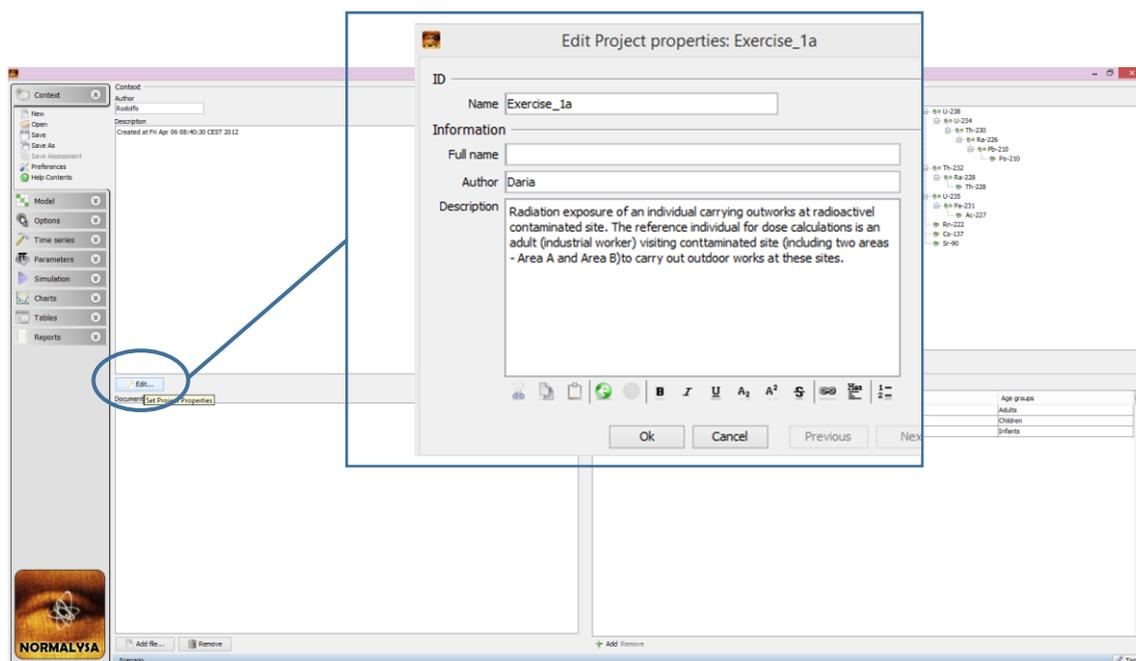

FIG 5. Editing 'Project properties' window.
1. Click the 'New' button in the context menu to create a new model file. Press the 'Edit' button to get access to the model description field (FIG 5).